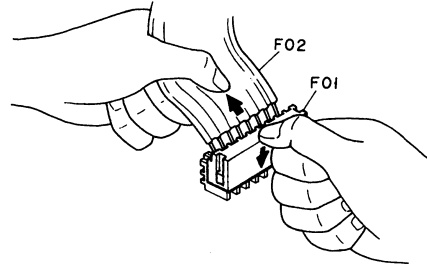

Fig. 2.4.1
Refer to Figs. 2.4.1 and 2.4.2.
- (1) To disconnect a flat cable, press down F01 (Connector Cover) strongly and remove F02 (Flat Cable). Refer to Fig. 2.4.1.